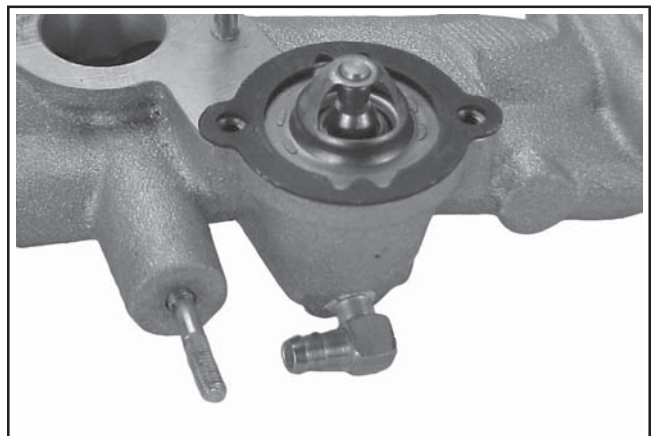
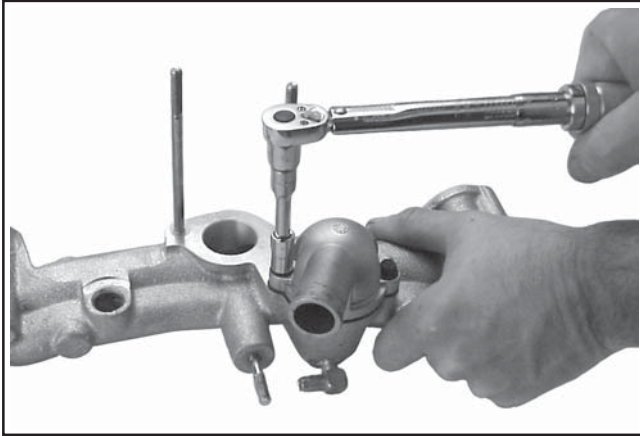

Figure 11-47. Gasket/Thermostat Notch Alignment.
Figure 11-48. Torquing Thermostat Housing Screws.
3. Position the thermostat housing so the outlet faces away from the mounting surfaces of the intake manifold. The notch in manifold, gasket and thermostat housing must all be aligned. See Figure 11-47. Install and torque the two hex. flange screws to **9.9 N·m (88 in. lb.)**. See Figure 11-48.